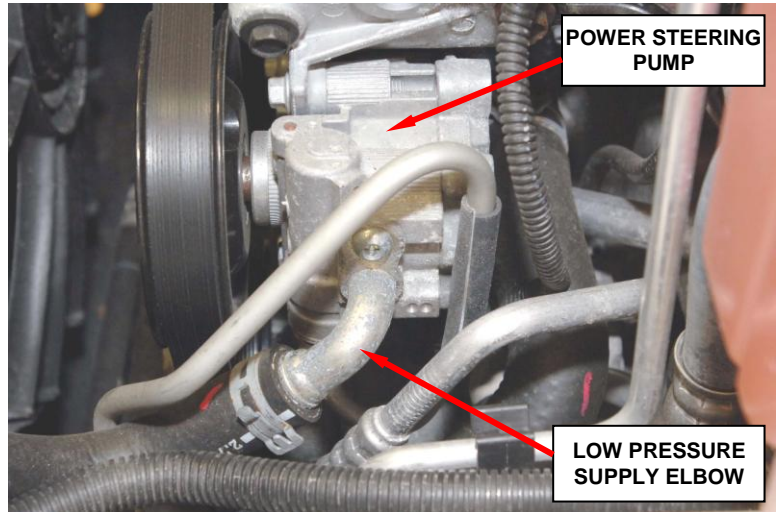

Figure 14 – Low Pressure Supply Elbow
5. Remove the low pressure supply elbow from the power steering pump to gain access to the power steering pressure hose tube nut (Figure 14).